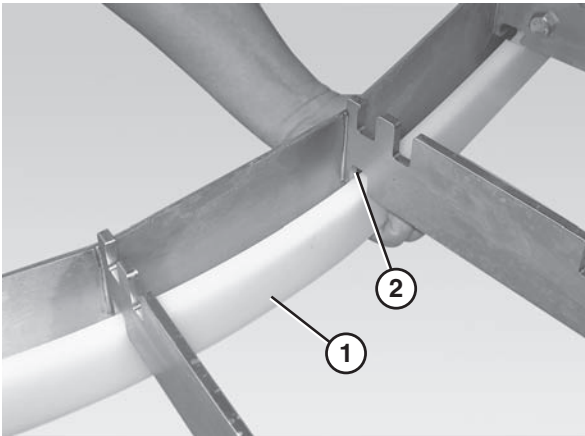

Figure 37
1. Insert the inside return bottom wear strip (Figure 37, item 1) into the slots (Figure 37, item 2) on the lower inside section of the frame (figure shown without the belt or wear strips).
2. Attach the chain return shoes (Figure 37, item 1) to the curve return shafts (Figure 37, item 2).